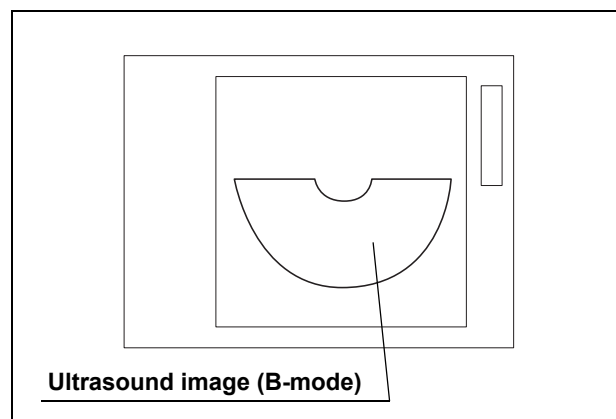

Figure 3.22
5. Confirm that the ultrasound image is visible on the endoscopic ultrasound center (see Figure 3.22).